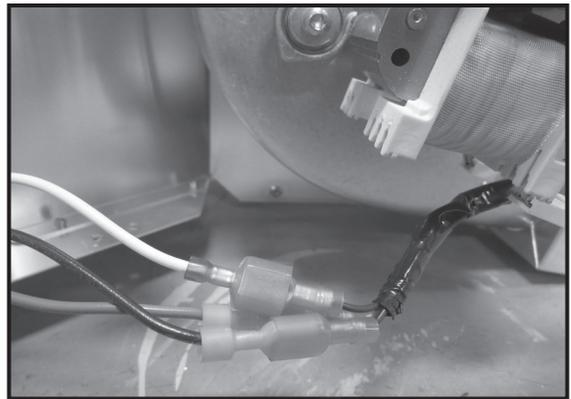

Figure 3.13
6. Attach the white and black wires from the PVI harness to the two black wires coming from the blower. Attach the green wire from the PVI harness to the green/yellow wire coming from the blower. See figure 3.13.